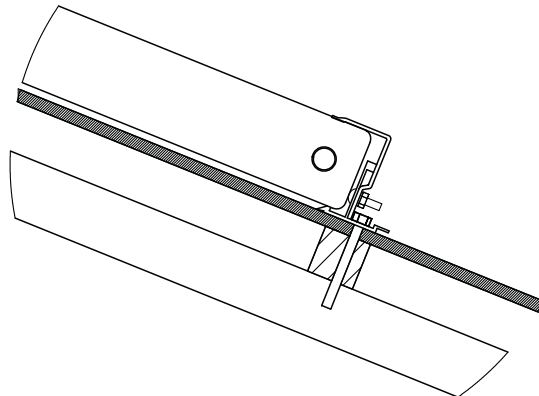

Figure 24 - Mount Collector on Roof
- Drill through the roof iron and purlin using the upper mounting rail as a guide. Apply some silicone sealant down the holes to ensure no water leakage and secure with suitable fasteners as shown in **Figure 24**. Alternatively the rail can be attached to the roof using the collector mounting straps.